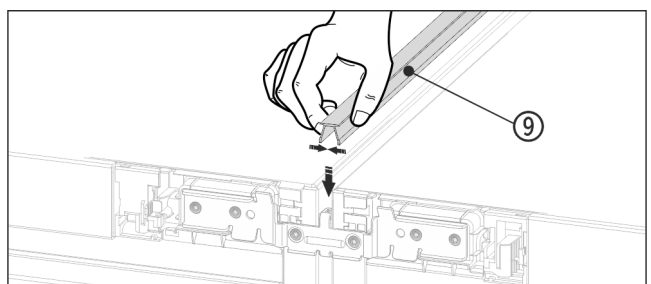

Fig. 23
- ▶ On the top press the short cover strip *Fig. 23 (9)* into the horizontal gap.